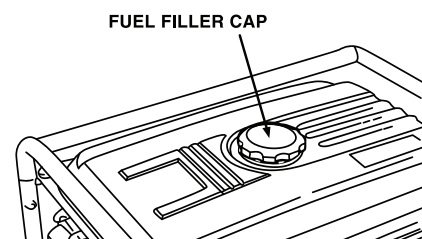

FIGURE 7
5.1.3 Next, remove the fuel cap on top of the welder and fill to the upper level with unleaded gasoline with a pump octane rating of 89 or higher. **FIGURE 7.**